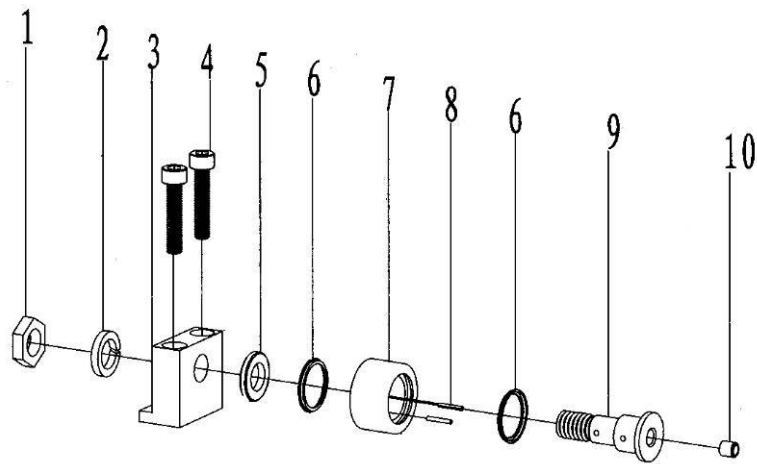

Fig 23
7.23 Support roller assembly (Fig 23, Table 23)